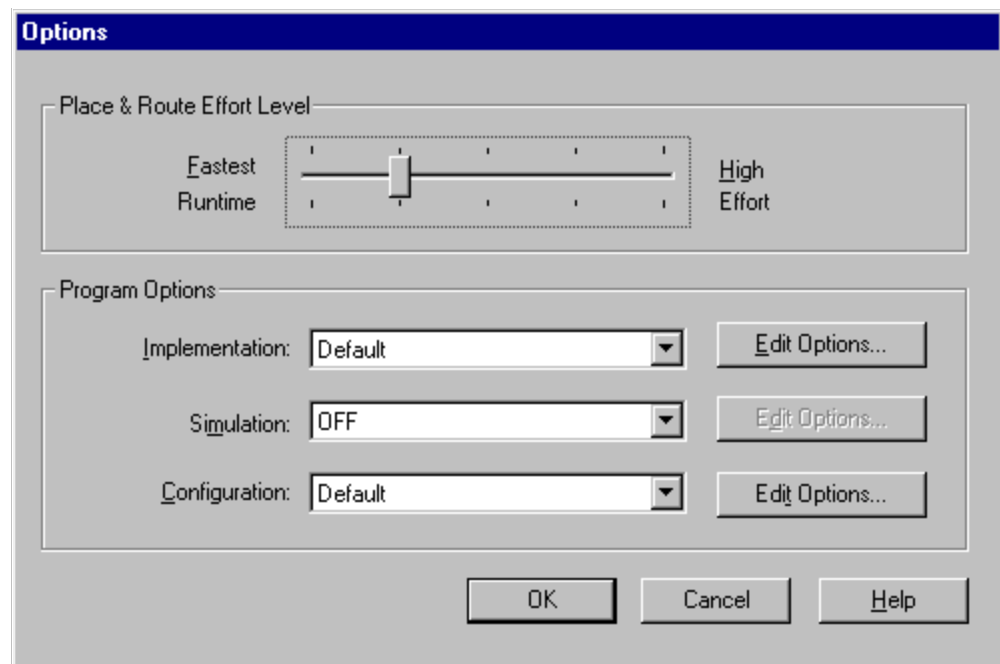

Figure 2: Options Panel
2. The Implementation, Simulation and Configuration options need to be set in the *Options* dialog box, Figure 2, before the user press the **Implement** button.
Selecting the **Options** menu item or pressing the **Options** tool bar button will bring up the *Options* dialog box, Figure 2.
Control over whether the **Timing Simulation** and/or **Configuration** steps are run is accomplished by selecting a valid set of options or **OFF** from the drop-down list for both **Simulation** and/or **Configuration** (i.e., Default). Notice how selecting **OFF** for Simulation disables (gray's out) the **Edit Options** button as shown in Figure 2.